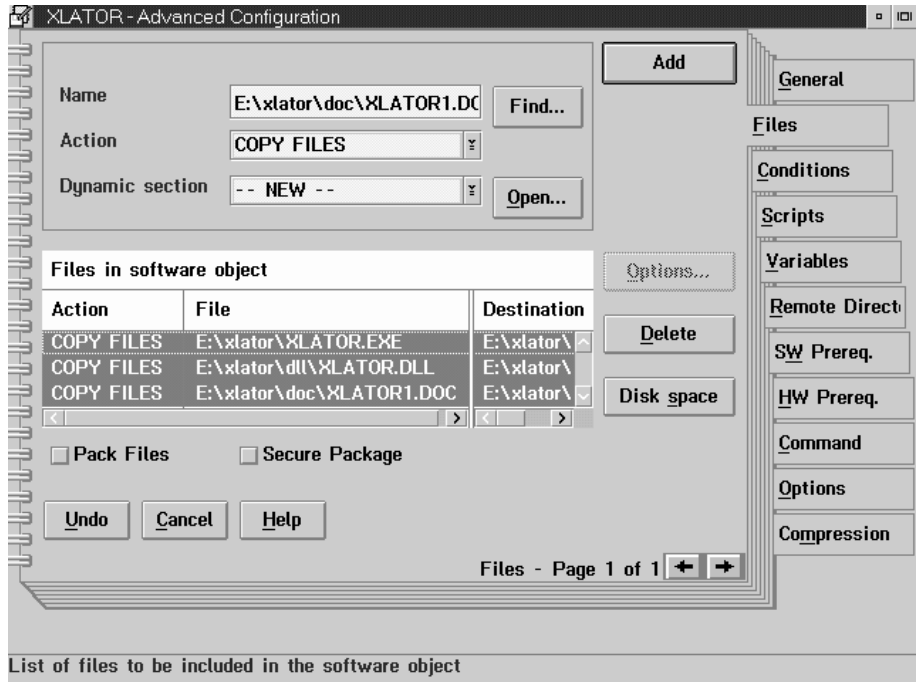

Figure 108. XLATOR - advanced configuration notebook: files page
- 8 Click on the **Files** tab to see the list of files that have been included in the software object. The list is displayed in the Files in software object container, as shown in Figure 108 on page 190. In this page it is possible to add, update, or delete files in the software object.